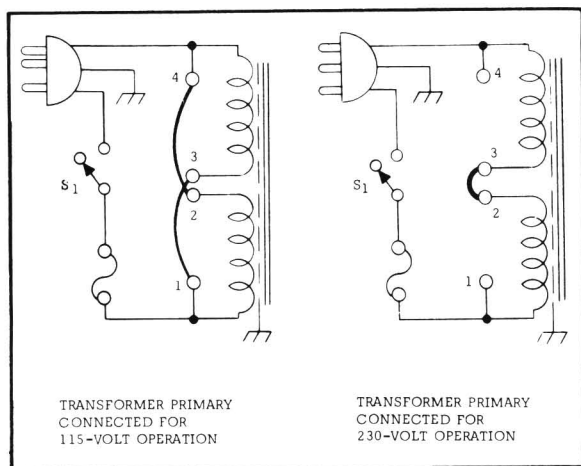

Figure 2-3. Input Power Transformer, Connections
2-17 Connections for 230 Volt Operation (Figure 2-3)
- Remove the jumpers between taps 4-2 and 3-1. Solder a jumper between taps 3-2 on the input power transformer T1, see Figure 2-3.